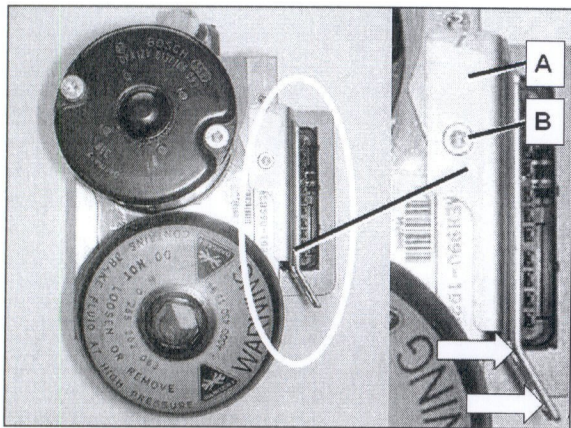

Figure 19
- Using hand tools, tap threads into SBC hydraulic unit bores by running self tapping screw (B, Figure 19) into lower bore **without** mounting bracket positioned on SBC unit.
27. Insert a cable tie through slot (arrows, Figure 19) in bracket, **do not** close cable tie.